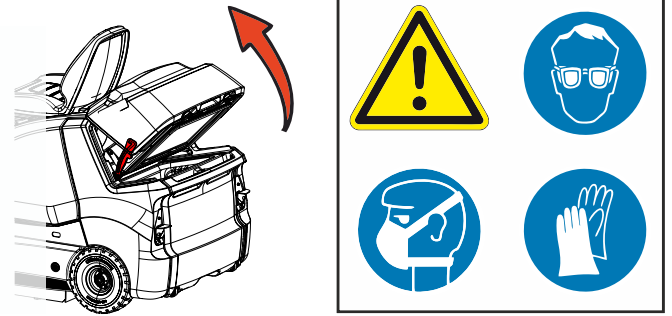

Fig. 40
- Raise the filter cover until this engages in the backplate. (Fig. 40)